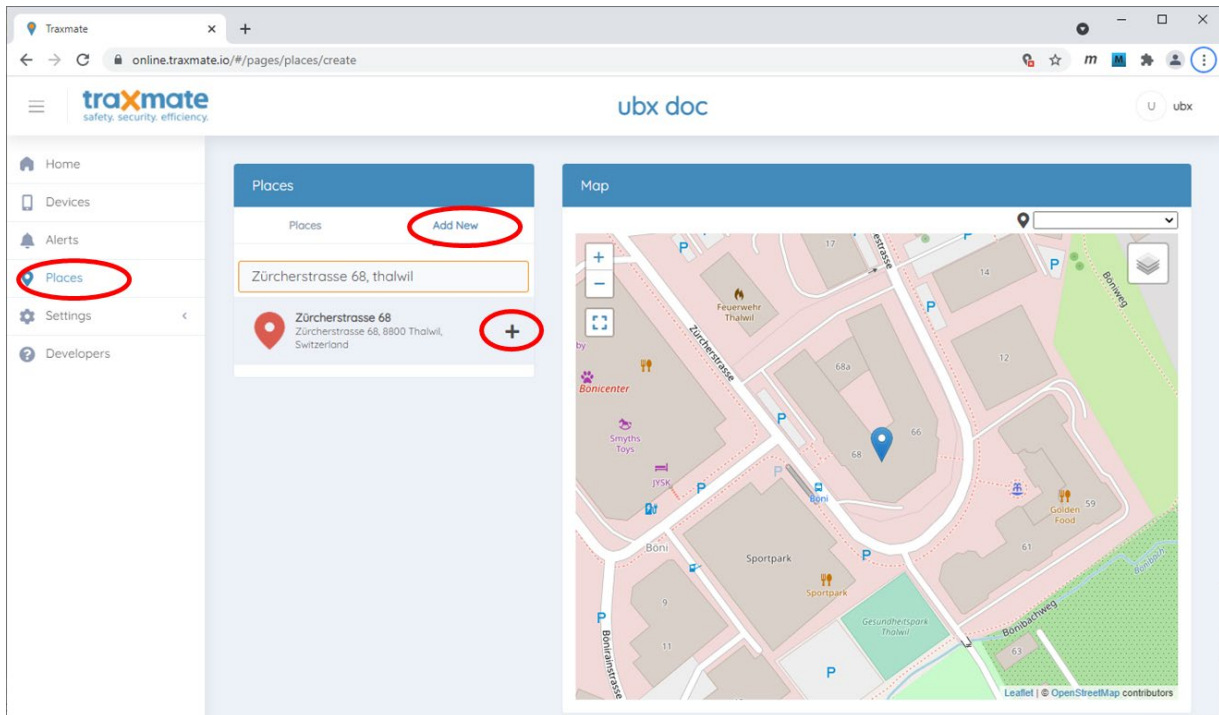

Figure 15: Adding a new place in Traxmate
1. From the “Places” menu, look up an address in the Traxmate GUI and add the building you want to track as a “Place”. Search for the address or mark the place in the map, as shown in Figure 15.